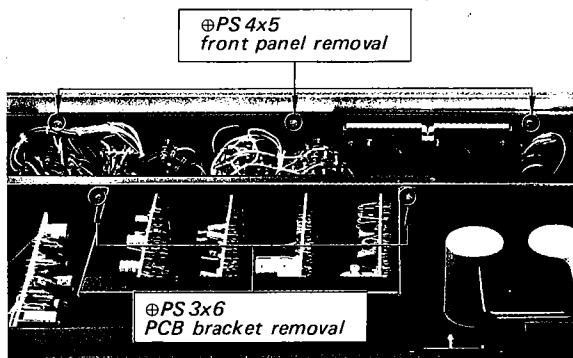

Fig. 2-3. Front panel and PCB bracket removal
4. Remove the three screws ($\oplus$ PS 4x5) behind the top edge of the front subchassis as shown in Fig. 2-3.
1. Remove the two screws ($\oplus$ PS 3 $\times$ 6) securing the PCB bracket to the PCB mounting bracket as shown in Fig. 2-3.